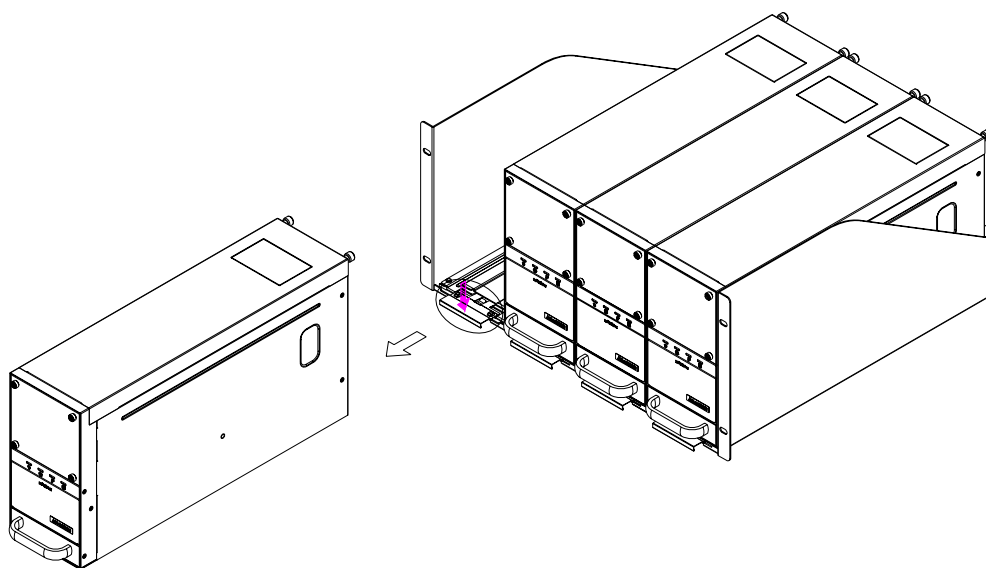

Figure C.5 Uninstall IPC-6025 from the Rack Carrier
1. Push the spring on the rack carrier.(Figure C.5)